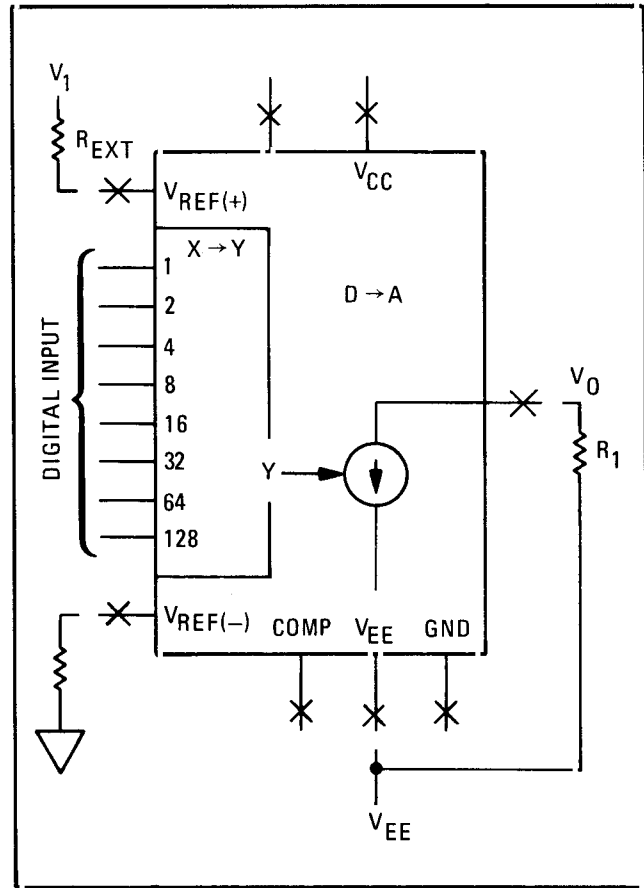

Figure 8-25. Digital-to-Analog Converter (8-bit)
**Digital-to-Analog Converter (DAC).** Refer to Figure 8-25. The analog output of this Digital-to-Analog Converter is a current flow that is proportional to the maximum current available and to the binary value of the digital input. The voltage output in the formulas is shown in its simplest form and with a minimum of external components. Be aware that other components will affect the actual voltage.